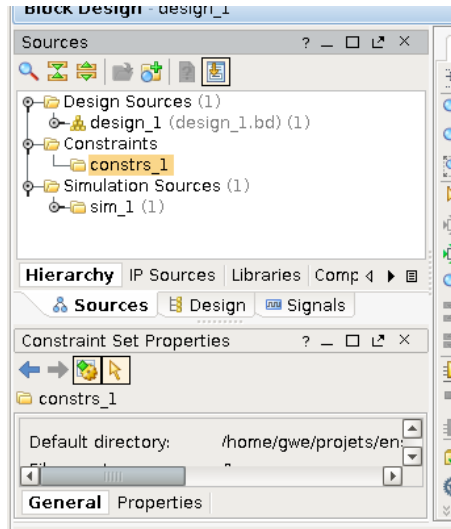

Figure 6: Adding constraints for mapping signals to FPGA pins.
- in the **Sources** tab on the left of the schematic, unwrap **Constraints** and right-click on `constrs_1` (Fig. 6) and select *Add Sources*